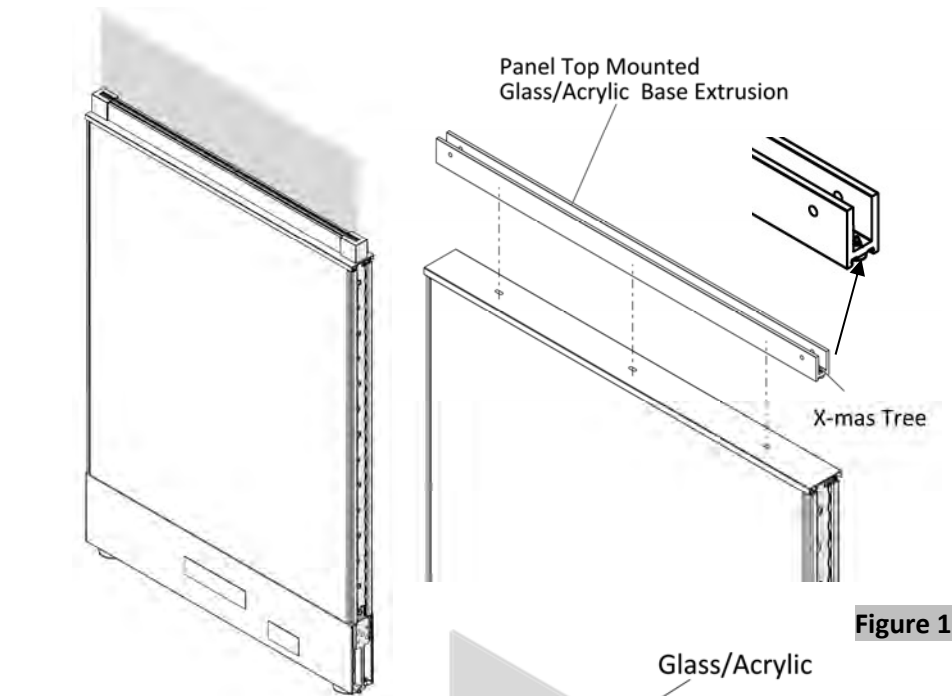

Figure 1
1. Check the panel top mounted glass /acrylic base extrusion if there is a X-mas tree on both ends before placing it on top of the top trim, (Figure 1).